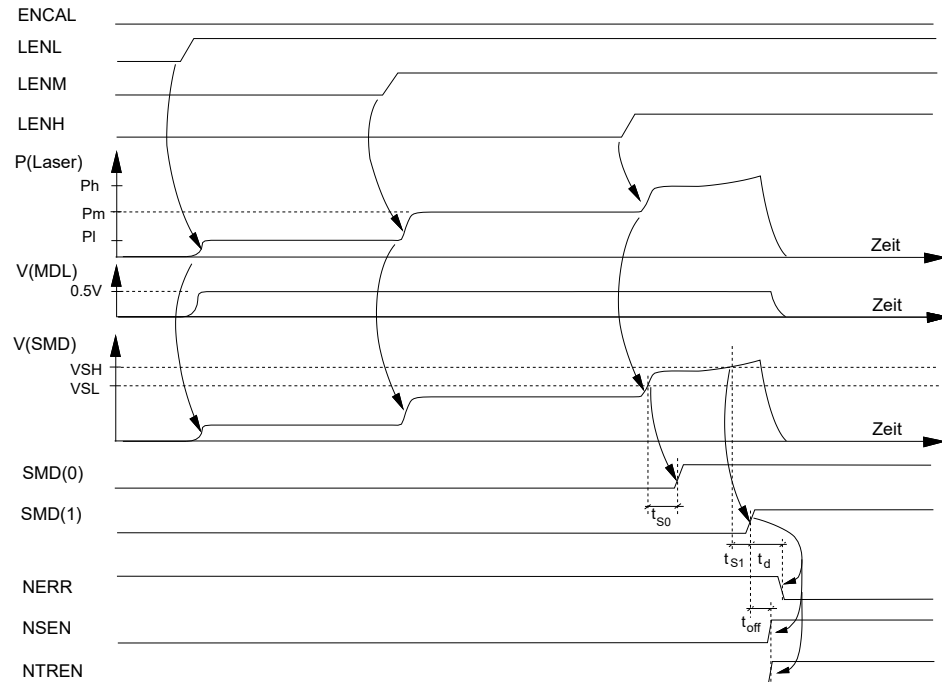

Figure 4: Safety shutdown times with failure of the control unit, for example
| 706                             | t s0               | Propagation Time:V(SMD) > VSL to SMD(0) lo → hi        | see Fig. 4Tj = 27 °CTj = 85 °C                       |      |      | 220240 | nsns |
| 708                             | t s1               | Propagation Time:V(SMD) > VSH to SMD(1) lo → hi        | see Fig. 4   |      |      | 220        | ns       |
| 709                             | t off              | Propagation Time:SMD(1) lo → hi until shutdown         | see Fig. 4   |      |      | 10         | ns       |
| 710                             | t d                | Propagation Time:SMD(1) lo → hi until errormessage | see Fig. 4   |      |      | 500        | ns       |